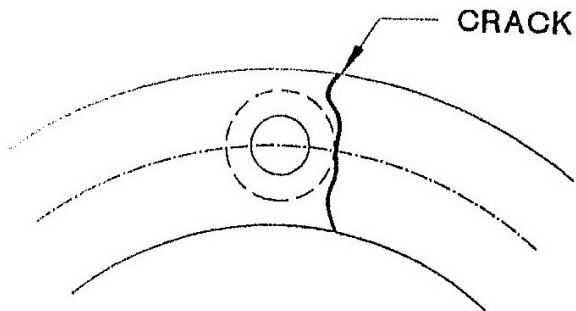

Figure 7 Excessive misalignment during operation.
3. Disk is broken adjacent to washer face. Cracks usually start in the outermost disk and progress through the disk pack. This indicates excessive misalignment during operation. See Figure 7. Replace both disk packs and realign the equipment. Make a hot check of alignment to ensure it is within the coupling specification.